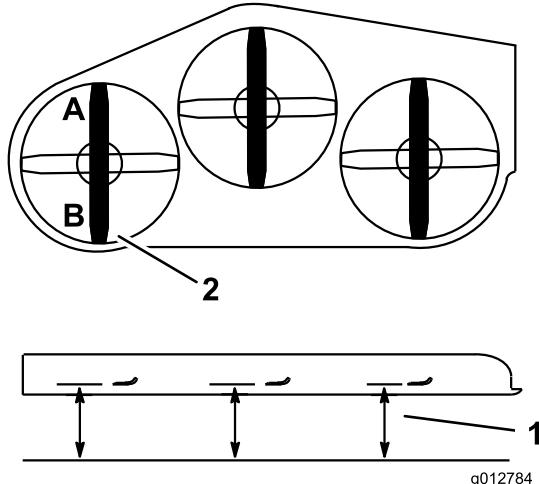

Figure 84
2. Measure the left blade at the **A** location, from a level surface to the cutting edge of the blade tip and record this measurement (Figure 84).
3. Measure the left blade at the **B** location, from a level surface to the cutting edge of the blade tip and record this measurement (Figure 84).
4. The mower blade should be a 1/4 to 3/8 inch (6 to 10 mm) lower at position **A** than at position **B** (Figure 84). If it is not correct, proceed to the following steps.